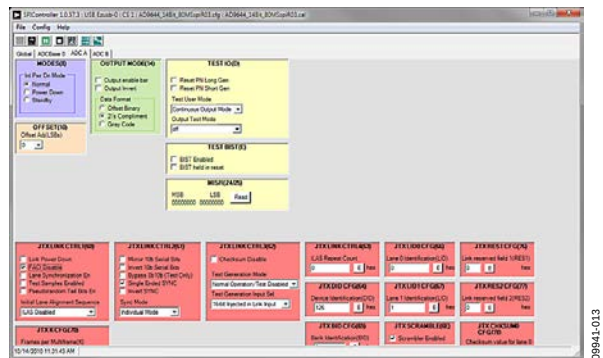

Figure 13. SPI Controller, Example ADC A Tab
7. If Configuration B (two converters, one JESD204A link, two lanes per link) is selected, click the **FACI Disable** check box in the **JTX LINK CTRL1** box (shown in Figure 13) for both Channel A and Channel B (**ADC A** and **ADC B** tabs) for the AD9644, or for only Channel A (**ADC A** tab) for the AD9641. Changing this selection sets the part to match the expected FPGA input configuration.